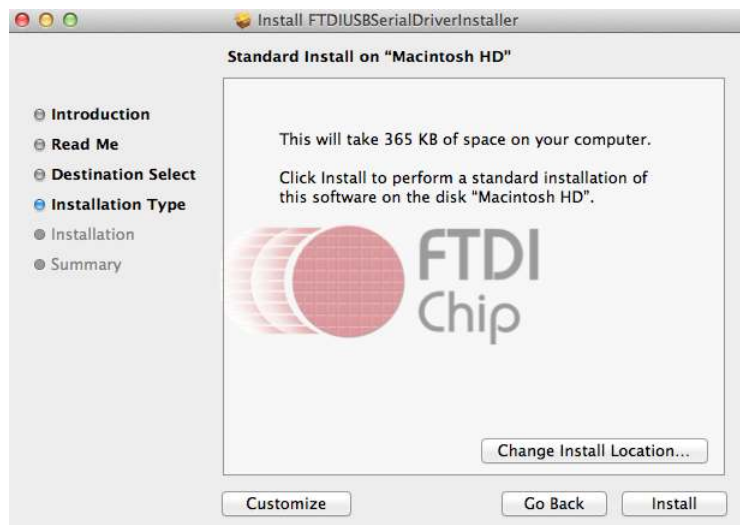

Figure-24: FTDI driver installation
- Proceed forward by pressing the 'continue' button till you reach the "installation type" screen as shown below in Figure -24.